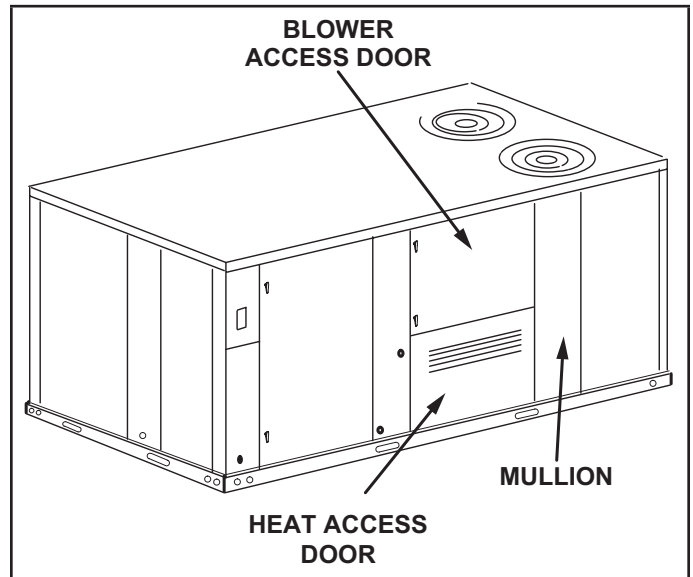

FIGURE 1
- 2 - Remove blower access door, heat access door, and associated mullion. See FIGURE 1.